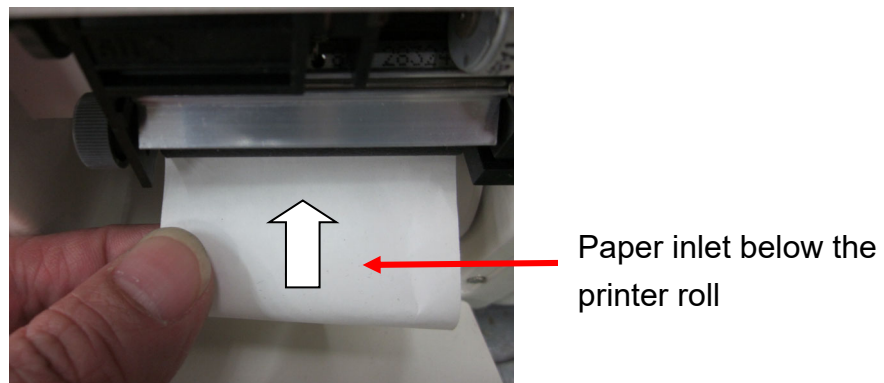
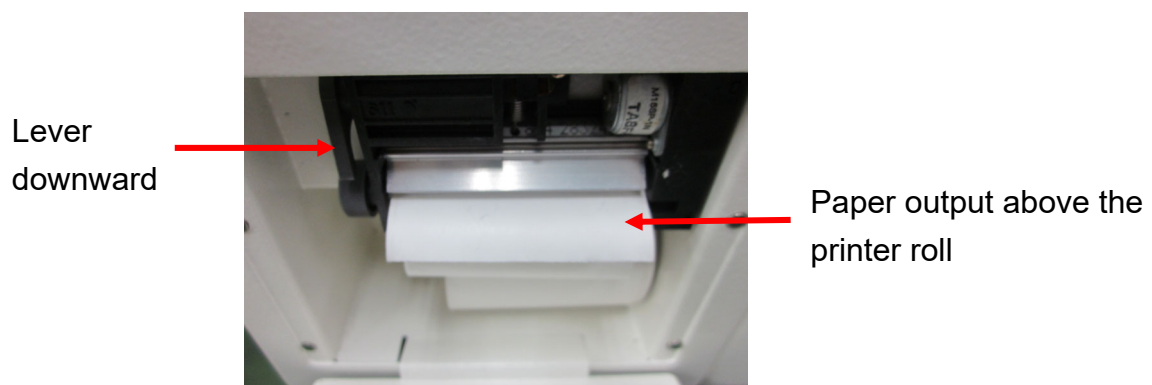

Figure 153
Figure 154
- D. Replace with a new one thermal paper in the compartment, and position the lever in the “downward position” as shown in Figure 154. Locate the thermal paper near to the sensing inlet (Figure 153), the thermal paper will be detected and then fed automatically (See Figure 154)